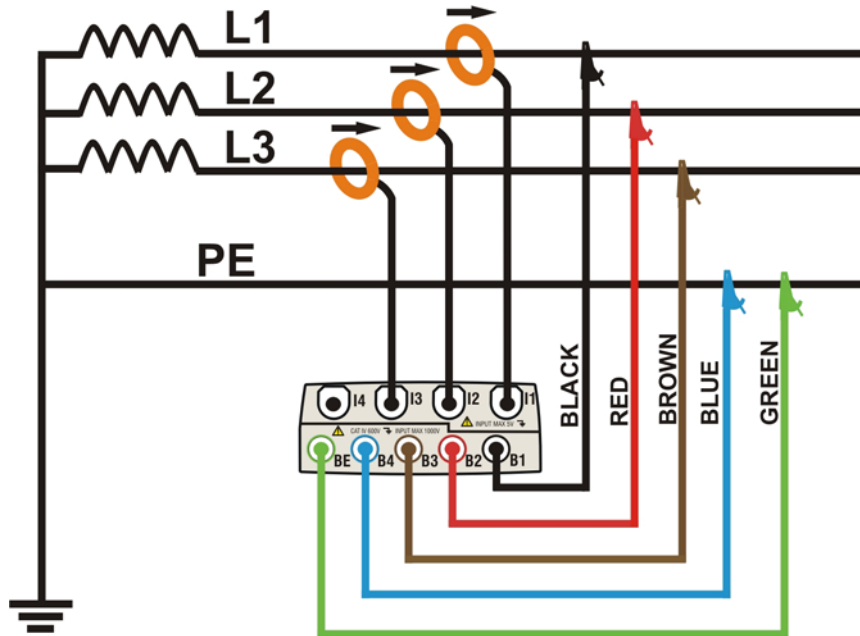

Fig. 176: Meter connection in a three phase 3-wire system
2. Connect voltage test leads on Phases L1, L2, L3, and Ground cables respecting the colours as shown in Fig. 176. **Verify the result “123” at display relative to a correct phase sequence indication** (see § 5.2.1) and perform the corrections if necessary.
3. Connect the transducer current clamps on Phase L1, L2, L3 cables as shown in Fig. 176 respecting the clamp's arrow direction indicating the current standard sequence from generator to load. **On Real Time Values' section screens always verify the positive value of Active Power and the power factor relative to load which should be normally inductive** before starting a recording. Reverse the clamp by 180 degrees on cables in case of negative readings.